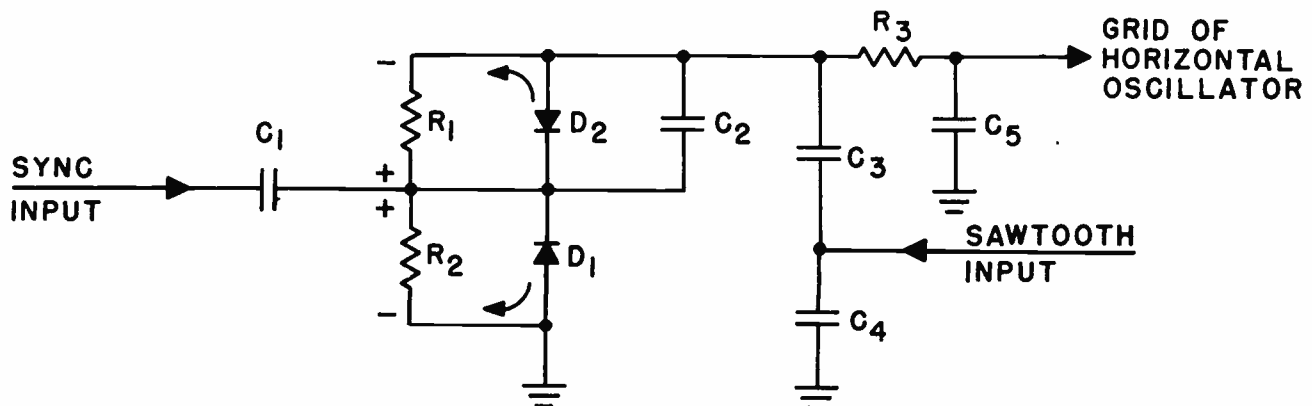

Fig. 36. A single-ended phase detector afc system.
The circuit of a single-ended phase detector afc system is shown in Fig. 36. Here the sync input consists of negative pulses. These pulses cause diodes D_1 and D_2 to conduct as shown, developing voltages across R_1 and R_2 as shown. As long as the conduction through the diodes is equal, the voltages across R_1 and R_2 will be equal and the net voltage fed through R_3 to the grid of the horizontal oscillator tube will be zero.
- (at) What is the polarity of the sync pulse fed to the phase detector in Fig. 36?